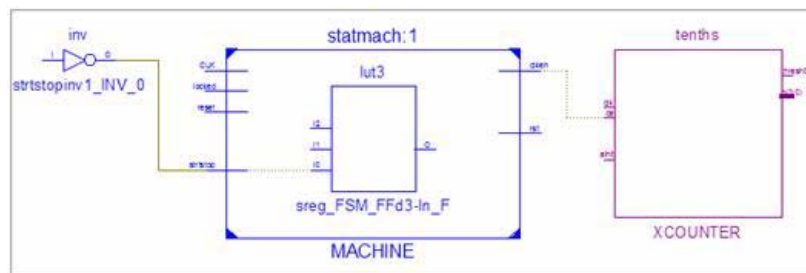

Figure 5-7: Expanding Blocks
- The **XCOUNTER** block will appear as shown in Figure 5-7.